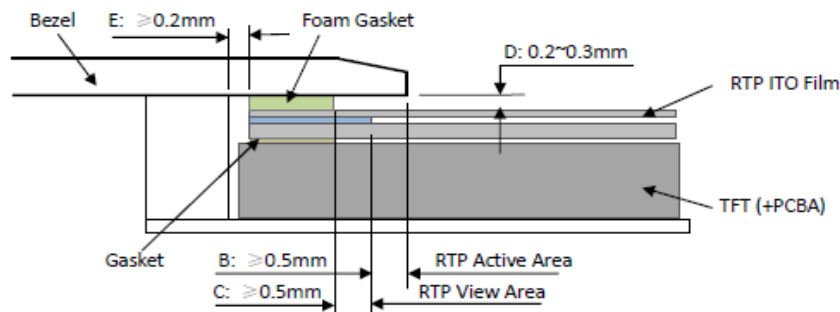

Figure 4
- It should bezel touching the RTP Active Area (A.A.) to prevent abnormal touch.It should left gab $D=0.2\sim 0.3\text{mm}$ in between. (Figure 4)
- Outer bezel design should take care about the area outside the A.A. Those areas contain circuit wires which is having different thickness. Touching those areas could de-form the ITO film. As a result bezel the ITO film be damaged and shorten its lifetime. It is suggested to protect those areas with gasket (between the bezel and RTP).The suggested figures are $B\geq 0.50\text{mm}$; $C\geq 0.50\text{mm}$. (Figure 4)
- The bezel side wall should keep space $E= 0.2\sim 0.3\text{mm}$ from the RTP. (Figure 4)
- 为避免面框直接压在动作区(A. A.)上造成误动作，面框与电阻触摸屏(RTP)之间应留有一定的空隙 $D=0.2\sim 0.3\text{mm}$ 之间。(附图4)
- 设计面框时，要注意用面框保护触摸屏四周的非保证操作区域，因为布线区域在此处形成一台阶，在此区域附近操作时ITO Film变形较大，容易导致ITO损坏而降低寿命。为保护RTP和避免误操作，在RTP与面框之间垫缓冲物(Gasket)，我们建议设计面框应覆盖动作区的边缘，面框边缘到V. A.区的距离 $B\geq 0.50\text{mm}$ ；垫圈内边缘到V. A.区的距离 $C\geq 0.50\text{mm}$ 。(附图4)
- 在设计面框与RTP组装时，应考虑到面框内侧与RTP外侧的间距 $E\geq 0.2\text{mm}$ 。(附图4)